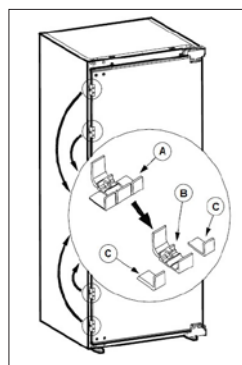

Fig. 5
3. Break the distance part (A) into three pieces according to Fig. 5. The middle part (B) is a door hinge, the other two parts (C) are the door's distance parts.